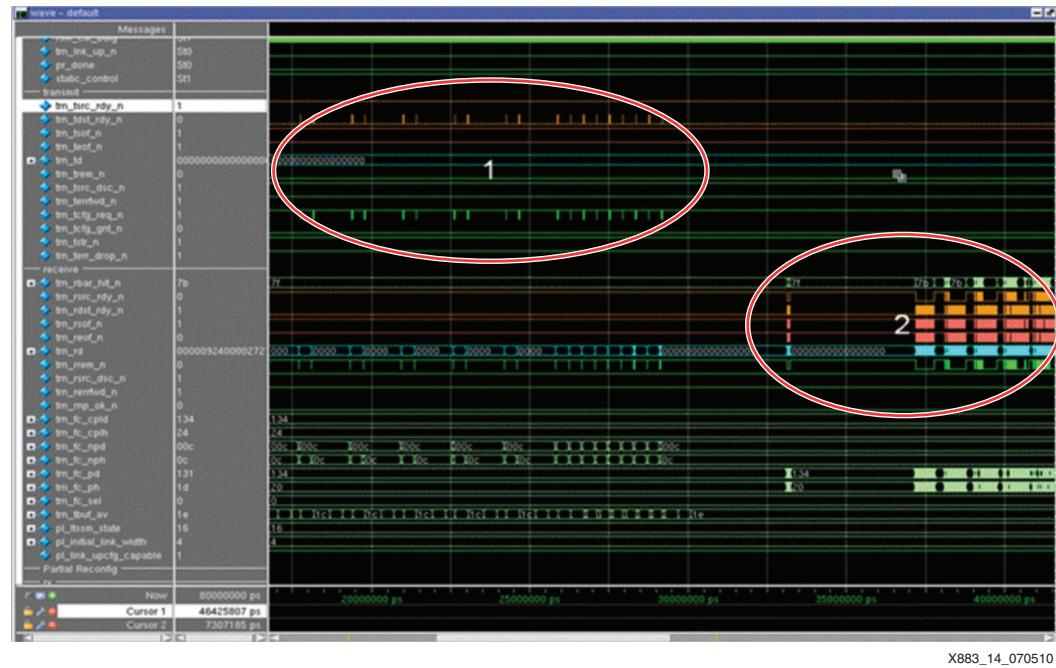

Figure 14: Simulation Waveform (Beginning)
2. The host begins sending the partial reconfiguration bitstream in the form of packetized memory write request (MW_R) TLPs. The first few TLPs contain the SOC sequence followed by the actual partial reconfiguration contents (see Figure 14).